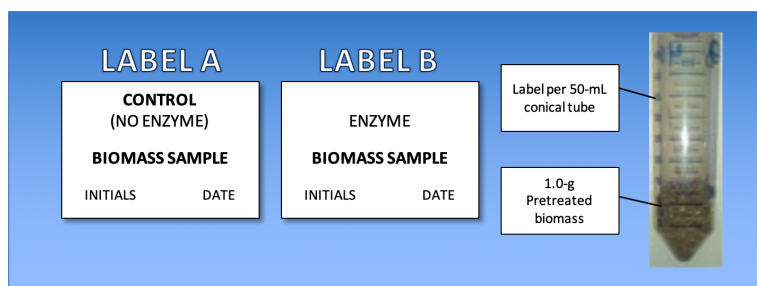

Figure 3: Example labels and diagram of sample preparation.
- The labels in **Figure 3** are examples. Every group will have 2 tube setups with the same biomass.